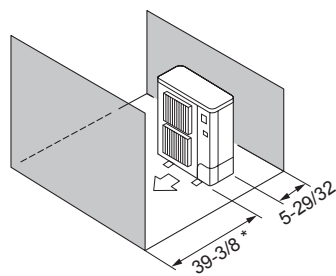

Fig. 2-10
⑤ Obstacles at front and rear (Fig. 2-10)